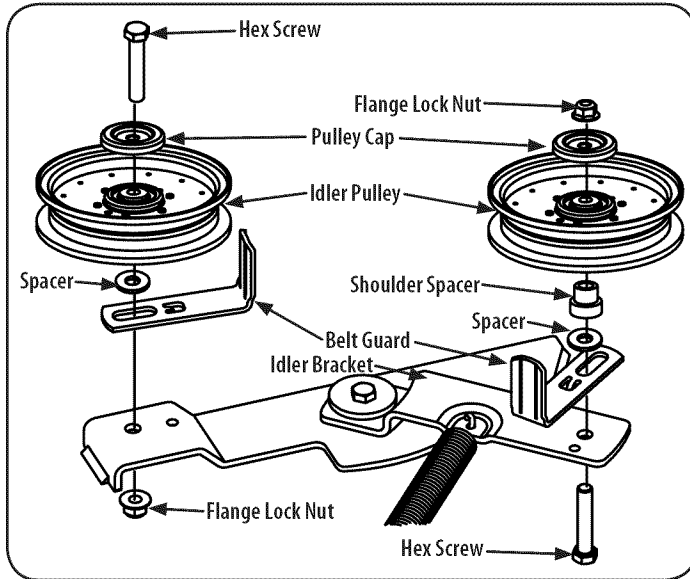

Figure 34
3. Remove the movable idler pulleys and belt guard on the left pulley by removing the hex screws, pulley cap and flange lock nuts that secure them the idler arm and deck. See Figure 34. Do not lose any of the hardware when removing the hex screw, belt guard, pulley cap, spacer, shoulder spacer and flange lock nut.
6. Place the belt around the idler pulleys removed in step 3 with the "V" side facing in. Once in place, reinstall all the hardware and tighten the flange lock nut to secure the assembly. See Figure 34.
7. Route the belt as shown in Figure 34 and then reinstall the deck (refer to Deck Installation).